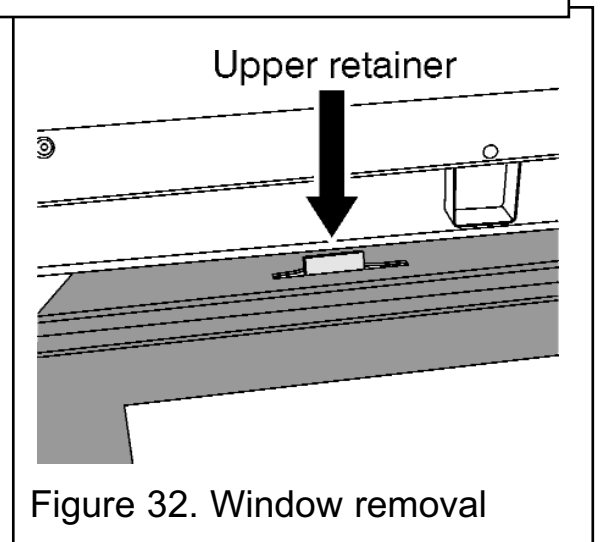

Figure 32. Window removal
3. With both clamps released, gently pull the base of the window panel forward. Hold the window panel base and lift upward until clear of the two upper window retainers (See figure 32).